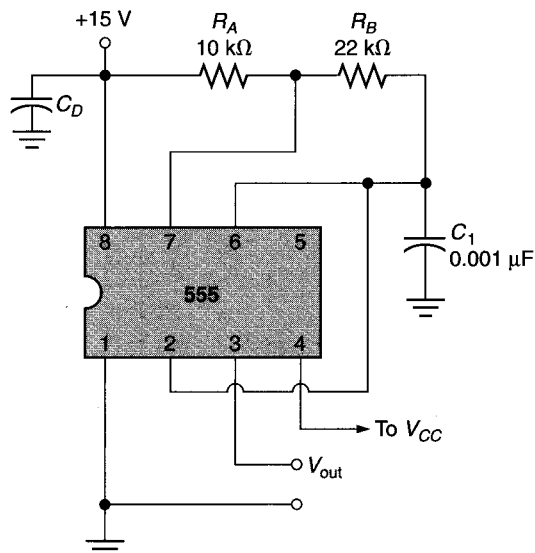

FIGURE 19.67
34. Calculate the operating frequency, duty cycle, and pulse-width values for the free-running multivibrator in Figure 19.67.
36. The value of  $C_1$  in Figure 19.67 is increased to  $0.033 \mu\text{F}$ . Recalculate the values of operating frequency and pulse width for the circuit.